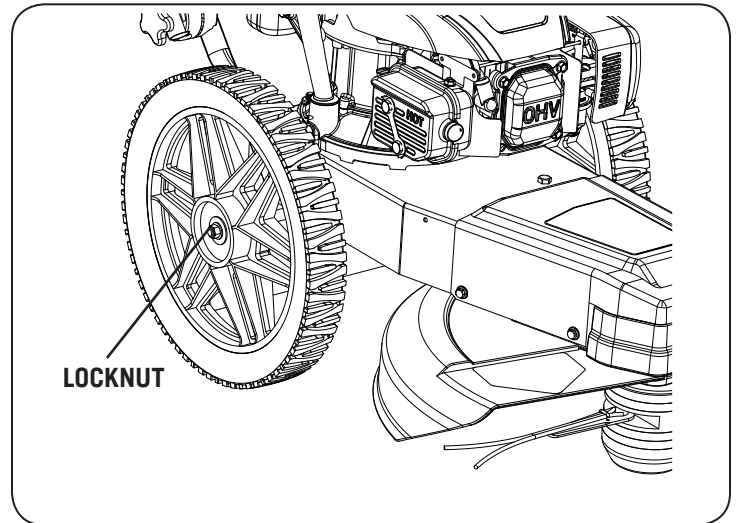

Figure 19
2. Loosen and remove the locknut (see Figure 19).